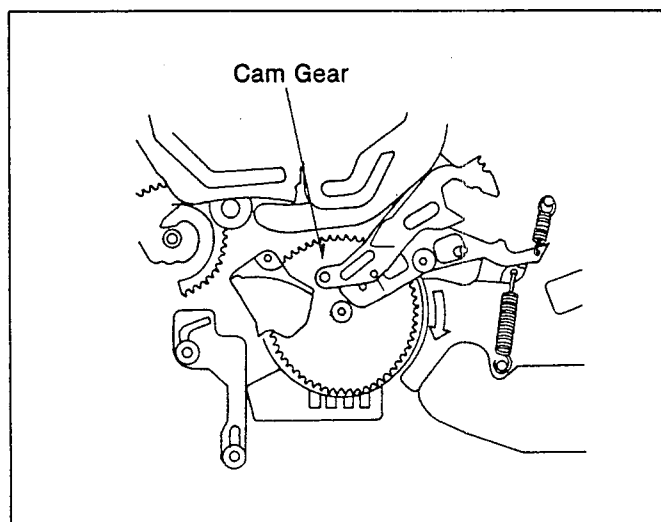

Fig. M19
- (2). When the installing of the Sector Gear is finished, turn the Cam Gear to clockwise that set the Mechanism to play position (loading end) as shown in Fig.M19.